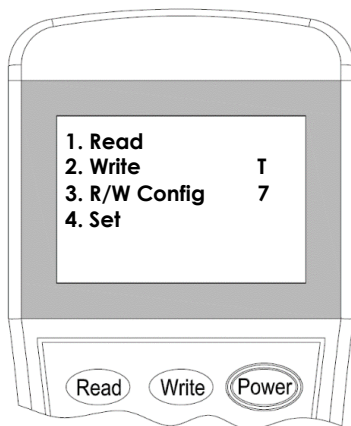
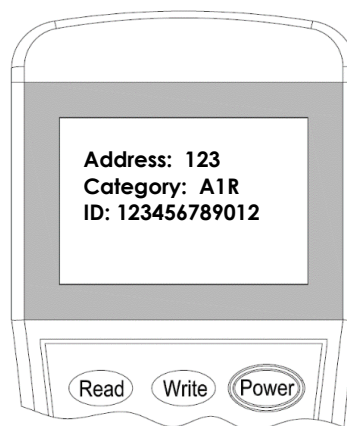

Figure 6
Figure 7
1. Switch-on the programmer, then press button **"Read"** or **"1"** to enter to **Read** mode (Figure 6). The programmer will display the configuration after few seconds. (Figure 7)